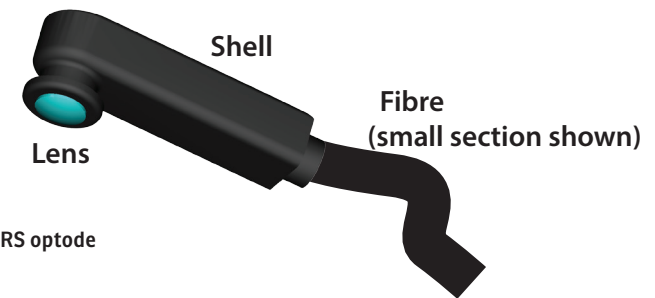
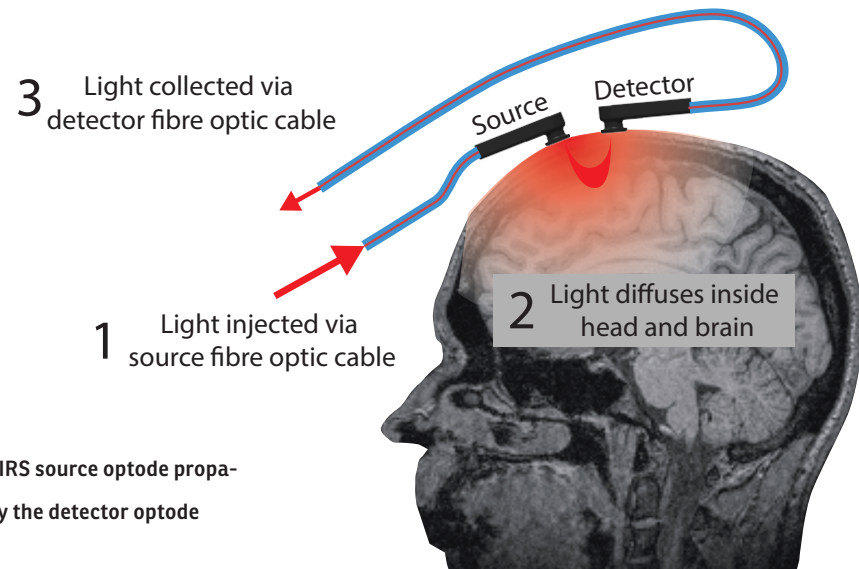

Fig. 2-2
Fig. 2-3
In NIRS, infrared (IR) light is sent into the head using small lasers in the NIRS device. The lasers create a high intensity beam (not high enough to be harmful) of two or more distinct wavelengths. This light is channeled into a fibre optic cable (see Fig. 2-2), which has a small lens on the one end (called an optode, similar to an electrode for EEG, except it measures optical light instead of electrical current). That lens is put in contact with the scalp so the light enters the head (see Fig. 2-3). Some of it is absorbed by the head (scalp, skull, brain etc...) and some of it is scattered. One of the materials that absorb light is the hemoglobin in the blood within the brain. The amount of oxygenated and de-oxygenated hemoglobin in the blood will influence the amount of light absorbed. Changes in the amount of oxygenated and deoxygenated hemoglobin in the blood will thus lead to very small changes of light absorbed within the brain. A second set of optodes and optical fibres are placed on the head to collect some of that scattered light that exits the head. The fibres channel that collected light into sensitive detectors inside the NIRS device and this signal is digitized for analysis. Mathematical algorithms are applied to process the collected data to calculate the changes in oxy and deoxy hemoglobin concentration. These changes can be associated in changes in brain function (as the brain works, it consumes oxygen in the blood), so in the end, a map of brain activation can be created by the NIRS device.
Interpreting the NIRS signal requires careful consideration and is an active field of research in of itself. The signal being recorded (refer back to Fig. 2-3) is a sum of multiple contributions including: